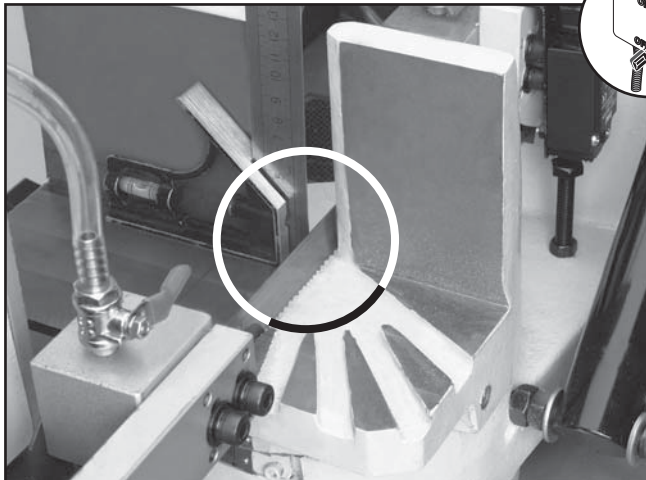

Figure 54. Checking blade squareness to vise.
4. Place a quality square against the vise and the side of the blade (**Figure 54**) to verify the blade is square with the vise.